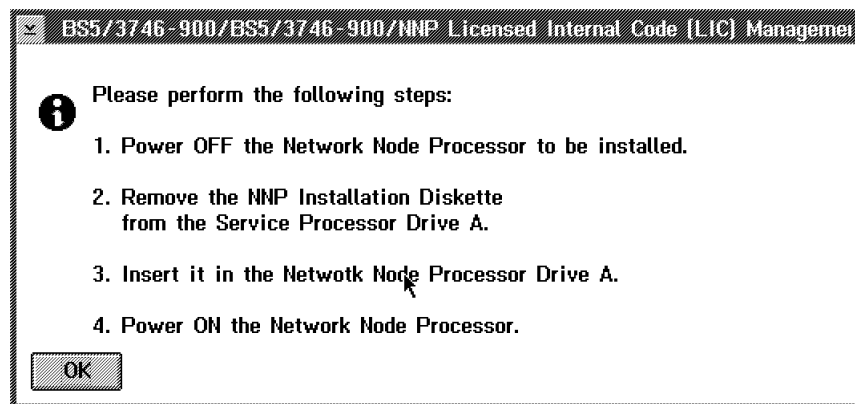

Figure 1-25. NNP-A Licensed Internal Code Management
16. When the process is completed, record the following procedures listed on Figure 1-25, then click **OK**.